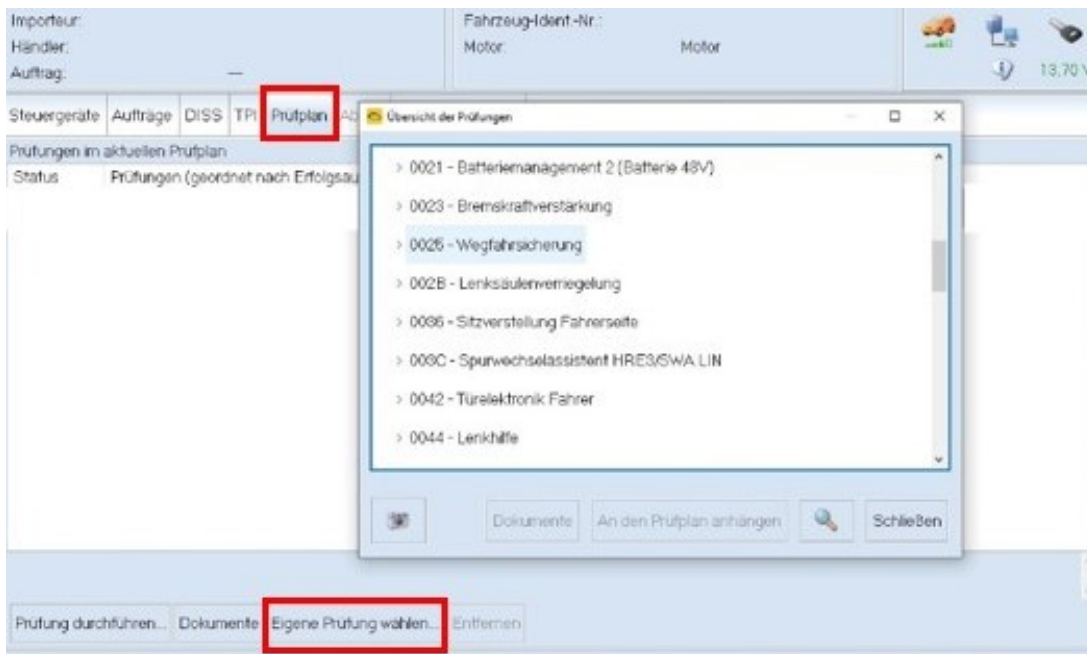

Figure 6: Test plan: Adapt the VKMS
- In the **"Test plan"** mode (see Figure 6, highlighted in red), select the function **"Select own check..."** (see Figure 6, highlighted in red).